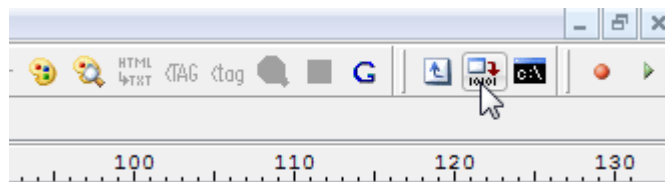

Fig 5. Compilation in PSPad
6) Do compilation of the project, press Ctrl + F9 or click correspond button on the toolbar (see Fig. 5).